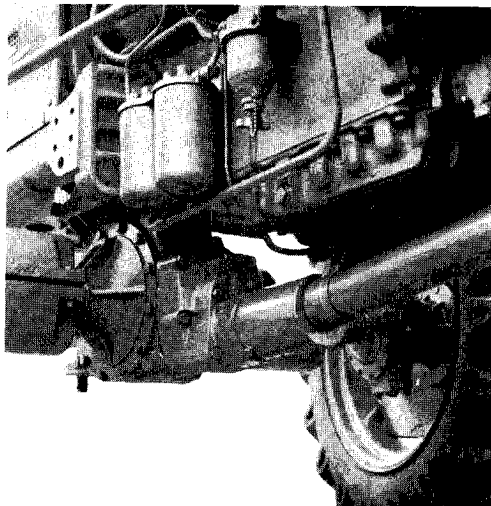
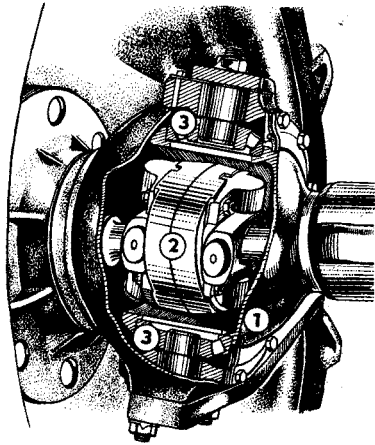

Fig. 14
Fig. 16
- drive box and cardan joint shaft (Fig. 14)
- double joint and driven wheel (Fig. 16)
drive is carried out from the drive box by means of an enclosed connecting shaft (Fig. 14). The drive distribution on both front wheels is carried out by means of the differential. The front wheel drive is provided by a safety slip clutch against overload. Front wheels are driven by semi-axes by means of double (homocinetic) joints (Fig. 16). In the front driven axle no differential lock is applied. (The safety slip clutch is set-up to 50—53 kpm.).
Axle housing is provided with its own oil filling. Checking, topping as well as change of oil is to be carried out at the same time as it is done with the gearbox. Inspection and filling orifice is located on the axle housing. Drain orifice is located on the bottom part of the axle housing (Fig. 14/1).